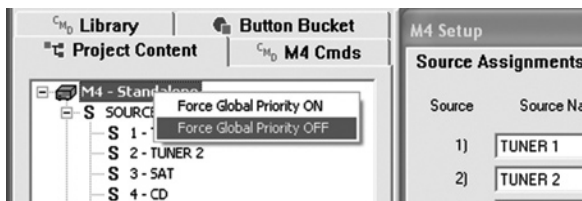

Figure 15 Forcing Global Priority OFF
1. Right-click your controller under Project Content. Left-click **"Force Global Priority Off"** and then click **"Yes"** on the pop-up. See Figure 15. This will force "Priority Off" on all function and numeric keys in all zones with the exception of keys checked as "Zone Power Off" keys. You can verify this by right-clicking any function key. You will see that "Priority OFF" is checked instead of "Priority ON."